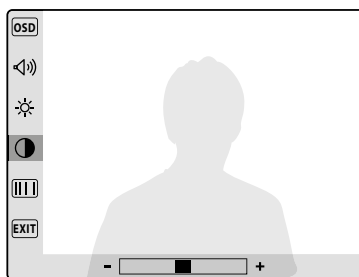

Fig. 19
- The picture contrast (8 levels, **Fig. 19**);